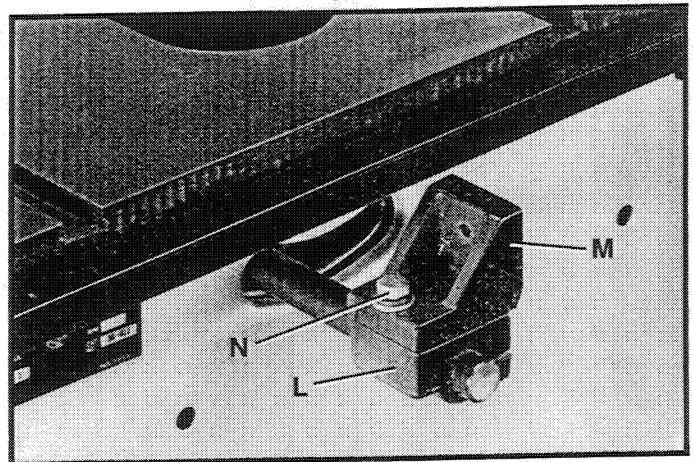

Fig. 41
8. Assemble upper splitter bracket (M) Fig. 41, to lower bracket (L) using one-inch long hex head screw (N) with lockwasher and flat washer. **NOTE:** Do not tighten screw (N) at this time.